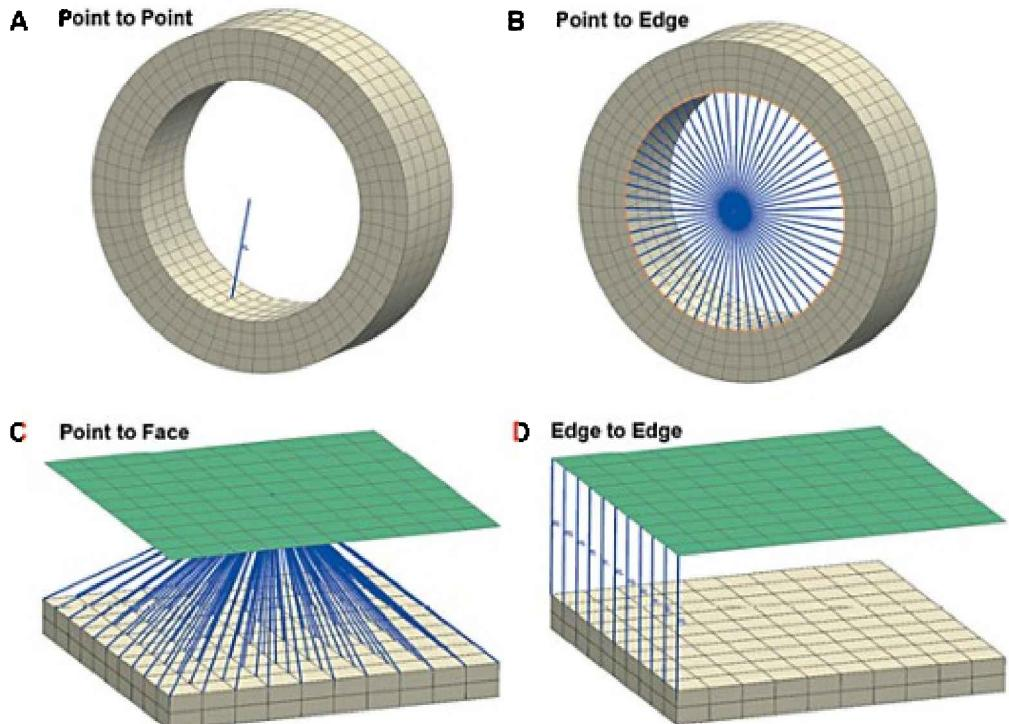

Figure 3.33. Methods of creating 1D connections:
- Select *Point to Point* to create 1D elements through selected points. Nodes created at these points are used in building the mesh (Figure 3.33, A).
- Select *Point to Edge* to create 1D elements through the specified point or node and all nodes lying on the specified edge (Figure 3.33, B).
- Select *Point to Face* to create 1D elements through the specified point or node and all nodes lying on the specified face (Figure 3.33, C).
- Select *Edge to Edge* to create 1D elements through nodes of an edge and nodes of another selected edge along the shortest distance (Figure 3.33, D).